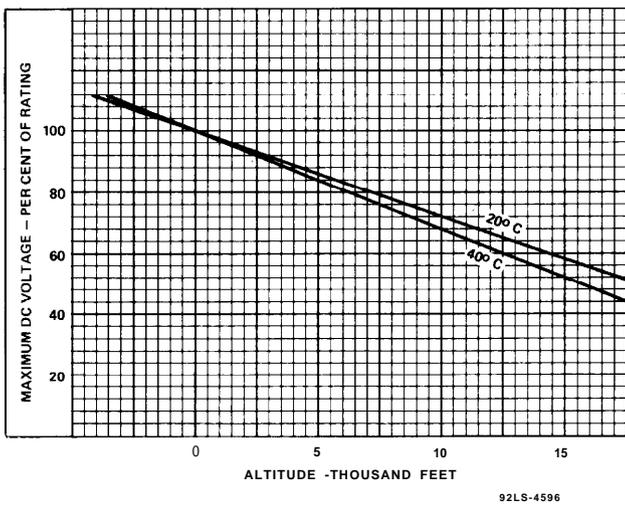

Figure 3 - Maximum DC Voltage with Respect to Altitude
10. The maximum voltage ratings must be modified for operation at altitudes higher than sea level and for temperatures in excess of 20 °C in accordance with the curves of **Figure 3**.